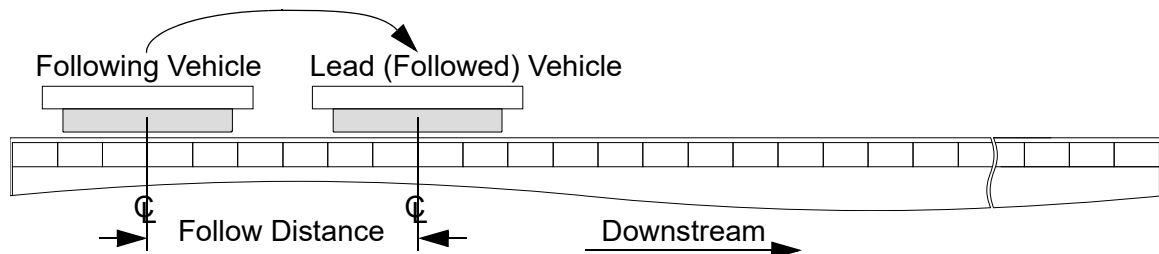

Figure 2-45: Create a Platoon
3. In the **Vehicles Commands** section, use the **Move To Position** tab to stop the vehicle that is, or will be, the lead (followed) vehicle (see Figure 2-45).
4. In the **Vehicles Commands** section, use the **Move To Position** tab to position the following vehicle behind the vehicle to follow in the platoon (see Figure 2-45). The platooning command must specify this distance between the vehicles as the Follow Distance.